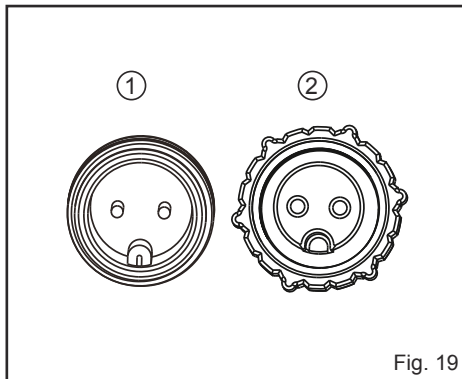

Fig. 19
- First connect the extension cable to the power adapter. Align the notch (①) on the extension cable with the groove (②) on the adaptor and turn the locking sleeve (③) clockwise to lock into place (Fig. 19 & 20).
- 2) Then connect the base station's power cord to the extension cable. Align the notch (①) on the power cord with the groove (②) on the extension cable and turn the locking sleeve (③) clockwise to lock into place (Fig. 19 & 20).